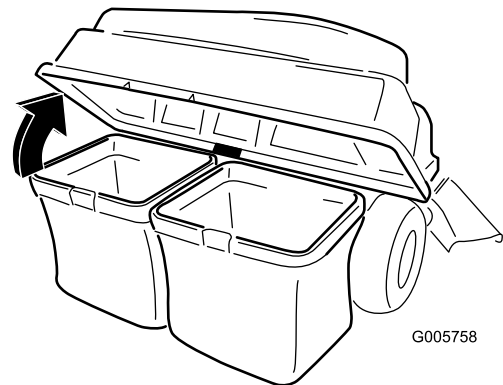

Figure 29
- Open (raise) the bagger top (Figure 29).